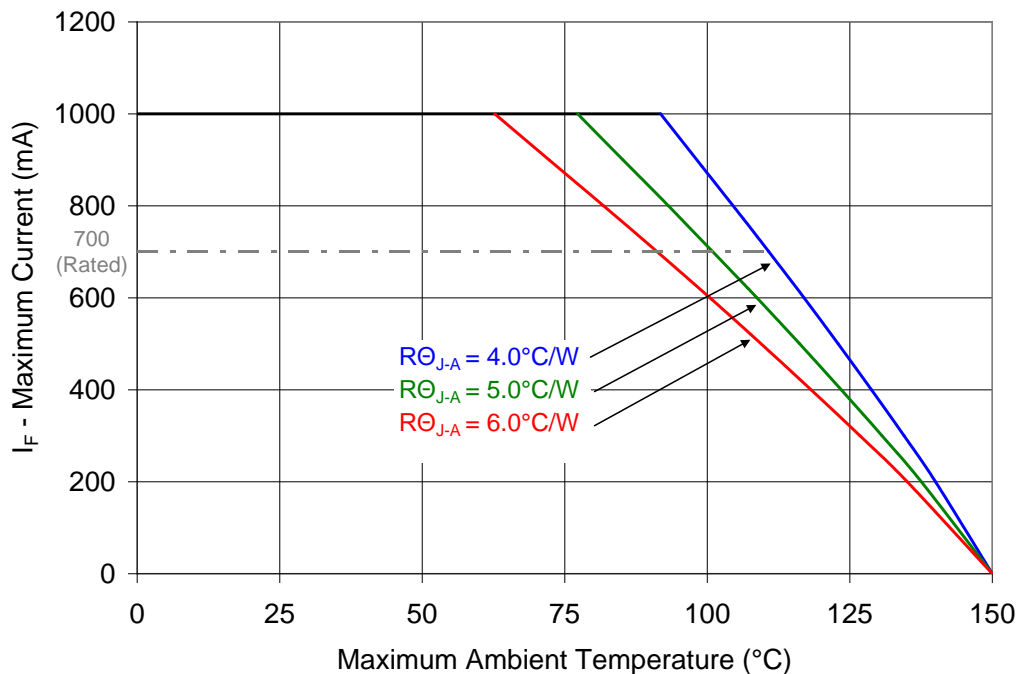

Figure 10: Maximum forward current vs. ambient temperature based on T_{j(MAX)} = 150°C.
- Maximum DC forward current (per die) is determined by the overall thermal resistance and ambient temperature. Follow the curves in Figure 10 for current de-rating.
Notes for Figure 10: